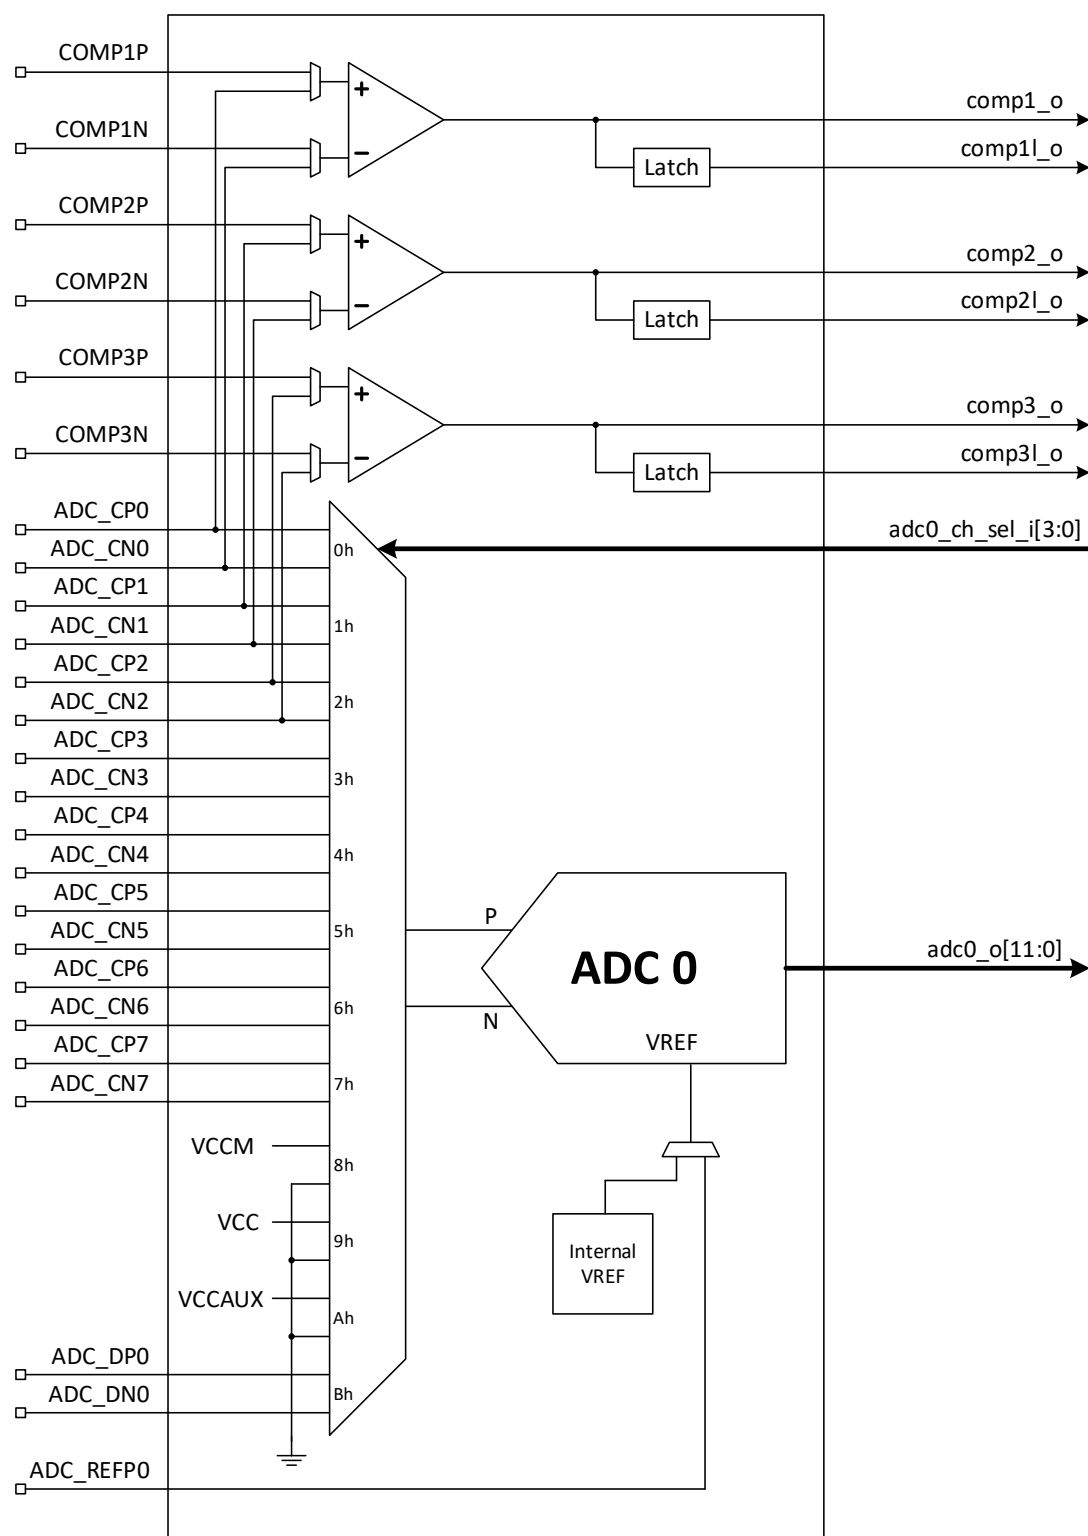

Figure 2.2. ADC Core Module ADC 0 Block
- ADC 0 Block (see Figure 2.2):